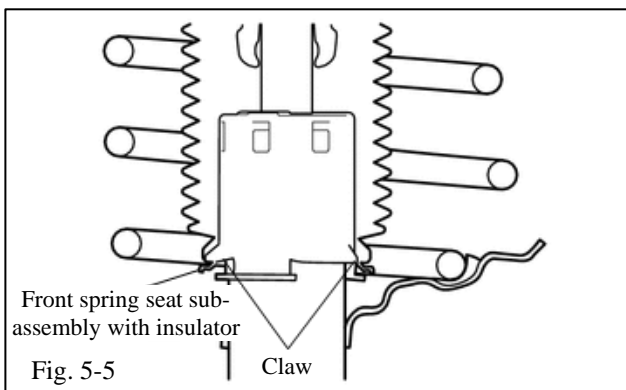

Fig. 5-5
(1) Temporarily tighten a new front support to front shock absorber nut.
(2) Hand tighten nut onto threads as far as possible (it will be torqued down after strut assembly is on the car).
- (g) Connect the front spring seat sub-assembly with the insulator (Fig. 5-5). Connect the end of the insulator of the front spring seat sub-assembly with insulator with the claws of the front shock absorber assembly.